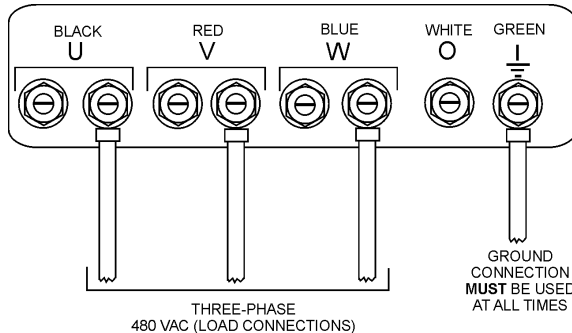

Figure 24. UVWU Terminal Lugs 3Ø-480V Connections
2. Connect the load wires to the UVWU terminals as shown in Figure 24.